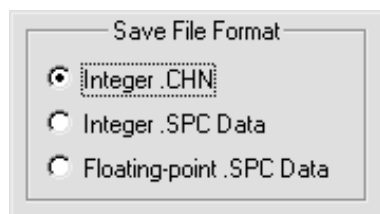

Fig. 14. Radio Buttons.
- **Radio buttons** (Fig. 14) appear on many MAESTRO dialogs, and allow only one of the choices to be selected.